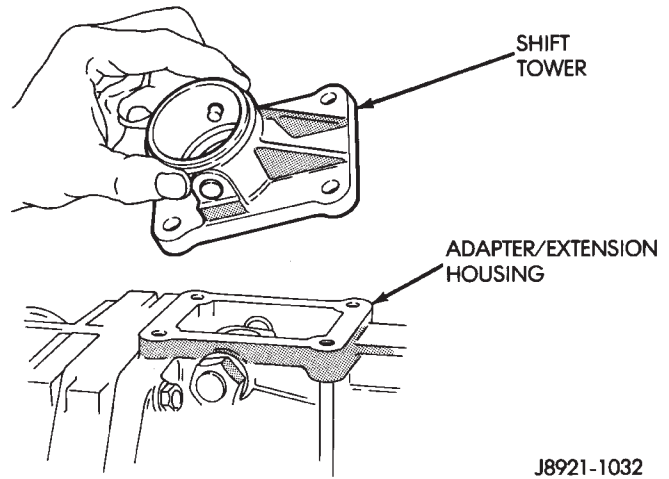
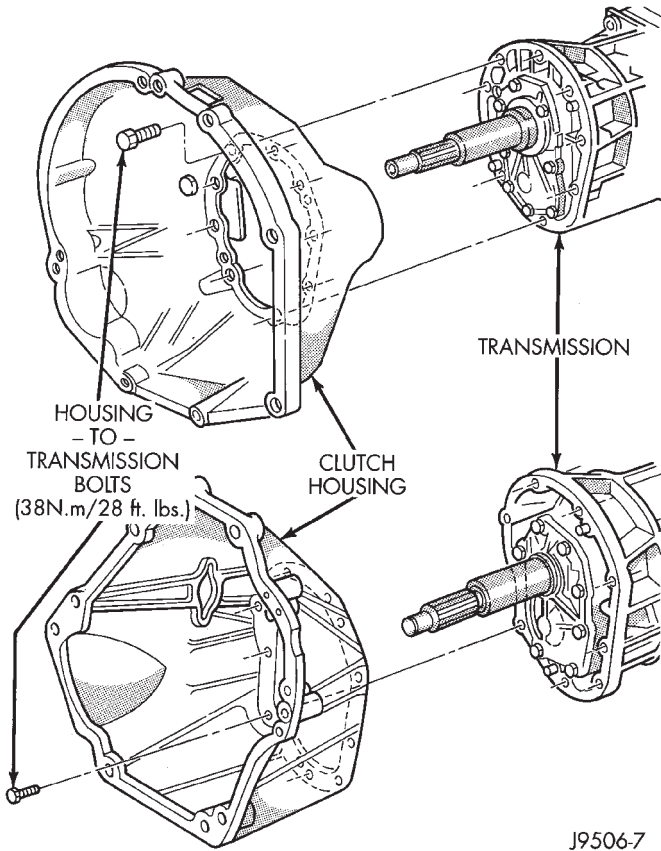

Fig. 17 Remove Shift Tower
Fig. 19 Clutch Housing
- (1) Drain transmission lubricant, if necessary.
- (2) Remove release bearing and lever.
- (3) Remove clutch housing bolts and remove housing (Fig. 19).
- (4) Remove vehicle speed sensor and speedometer adapter, if necessary.
- (5) Remove bolts holding shift tower to transmission case.
- (6) Remove shift tower from transmission case (Fig. 17).